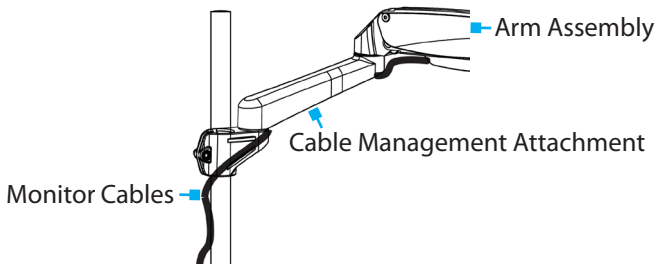

Figure 18
2. Route the **Monitor Cables** through the **Cable Management Attachment**, through the lower portion of the **Arm Assembly**, through the **Cable Management Clip**, and to the **Power/Video Sources**. (Figure 18)